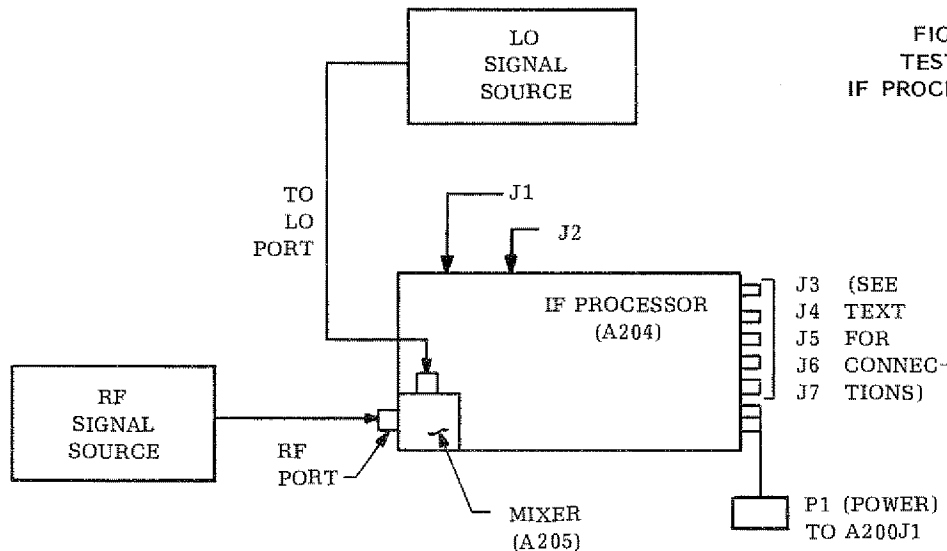

FIGURE 5-3
- e. Apply a 0 dBm signal in the 1 - 18 GHz range to the Mixer RF input port (see Figure 5-3). Monitor DC output with oscilloscope at IF converter port (connector that plugs into IF Processor). A DC voltage between 50 and 250 mV should be indicated.
- c. Connect IF Processor to two signal generators as shown in Figure 5-3. Terminate A204J3 in 50 ohms.
- f. Set LO signal source for 1 GHz \pm 1 MHz at -16 dBm, and apply to LO Mixer port (see Figure 5-3).